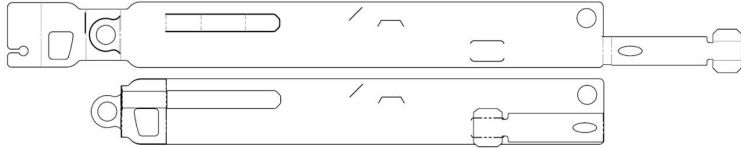

Figure 1A (top) / 1B (bottom): Convert Flat Pattern Robotic Arm Instrument Card into a 3D Structural State
- Convert flat pattern Robotic Arm Instrument Card into a 3D structural state by folding left most flap and right most flap 180° to achieve 3D state. Note that provided score lines indicate where to make folds. Figure 1A and 1B show a before & after conversion of the Robotic Arm Instrument Card from a flat state to a 3D state.